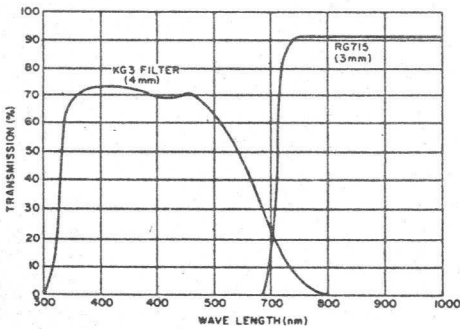

Figure 3 Filter Characteristics
13. With the same light source specified in Footnote 10, except an infra-red absorbing filter Fish Schurman (Schott) Filter KG3, thickness = 4 mm (.157 in.), is interposed between the light source and the faceplate of the tube. The level of illumination is that of the unfiltered light. See Figure 3 for filter transmission characteristics.
14. With the same light source specified in Footnote 10 except an infrared transmitting filter Fish Schurman (Schott) Filter RG715, thickness = 3 mm, (.118 in.) is interposed between the light source and the faceplate of the tube. The level of illumination is that of the unfiltered light. See Figure 3 for filter transmission characteristics.
Tubes are exposed to 0.0755 ft. c. illumination (light flux of .10 millilumen) of black body color temperature of 2870°K. An appropriate filter is inserted in the light path. The signal current obtained in nanoamperes x 10 denotes the luminous sensitivity expressed in terms of microamperes per lumen of white light incident on the filter. See Figure 3 for filter transmission characteristics.